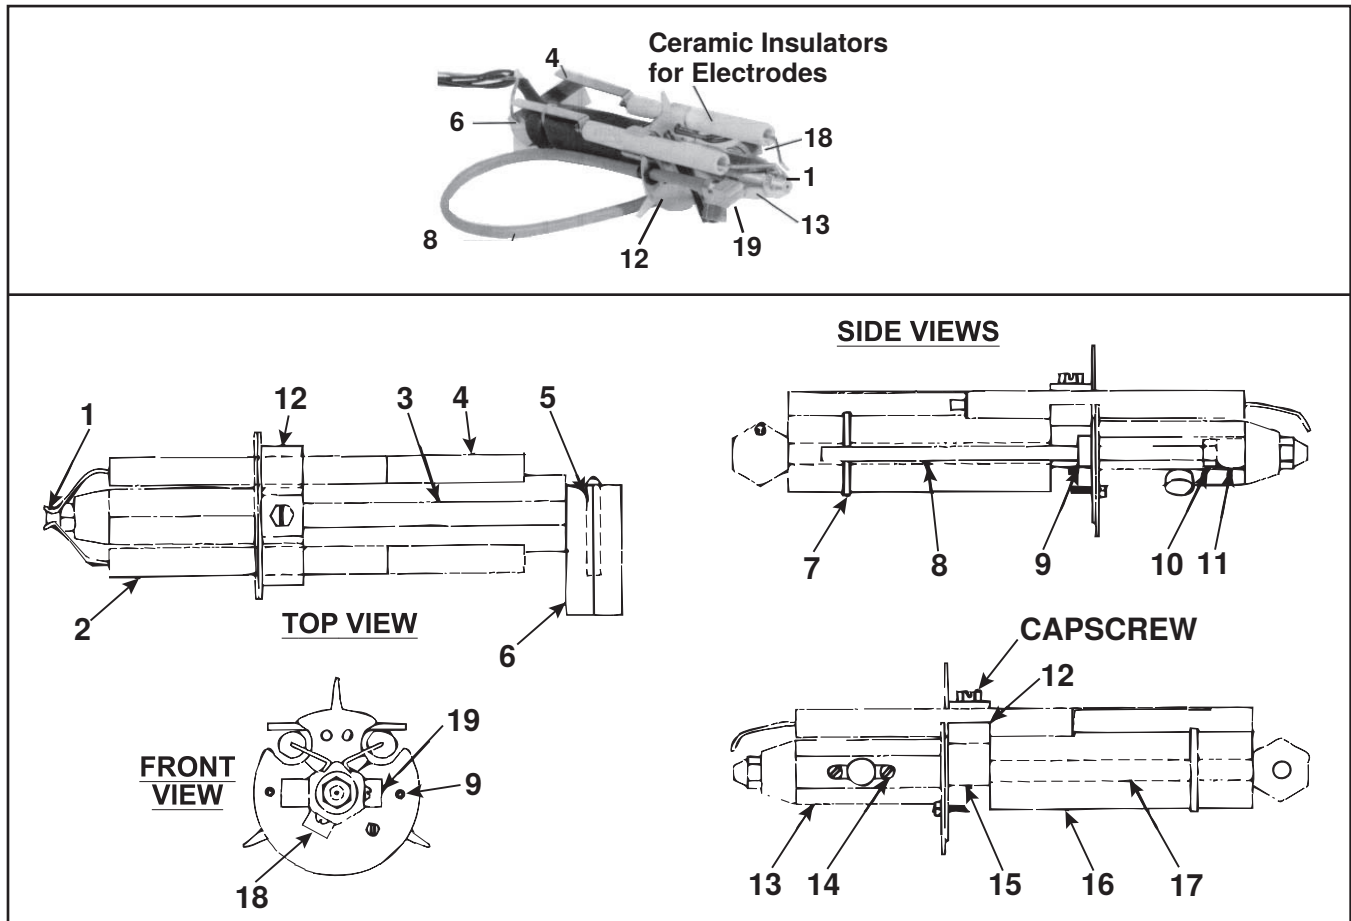

Figure 5. Nozzle/Fuel Line Assembly (Refer to Table 6)
- Nozzle/fuel line components are shown in Figure 5 and listed in Table 6.
- Remove the silicone rubber from the inlet heater block (item 6) to free the inlet-watt heater element (item 5). Use silicone rubber to retain the replacement element.
- The nozzle adapter (item 13) also contains a heater element. To replace that element: 1) remove the buss bars, 2) unscrew the inlet heater and slide the black insulation rearward, and 3) loosen the setscrew that retains the static plate and slide rearward to expose the heater element.